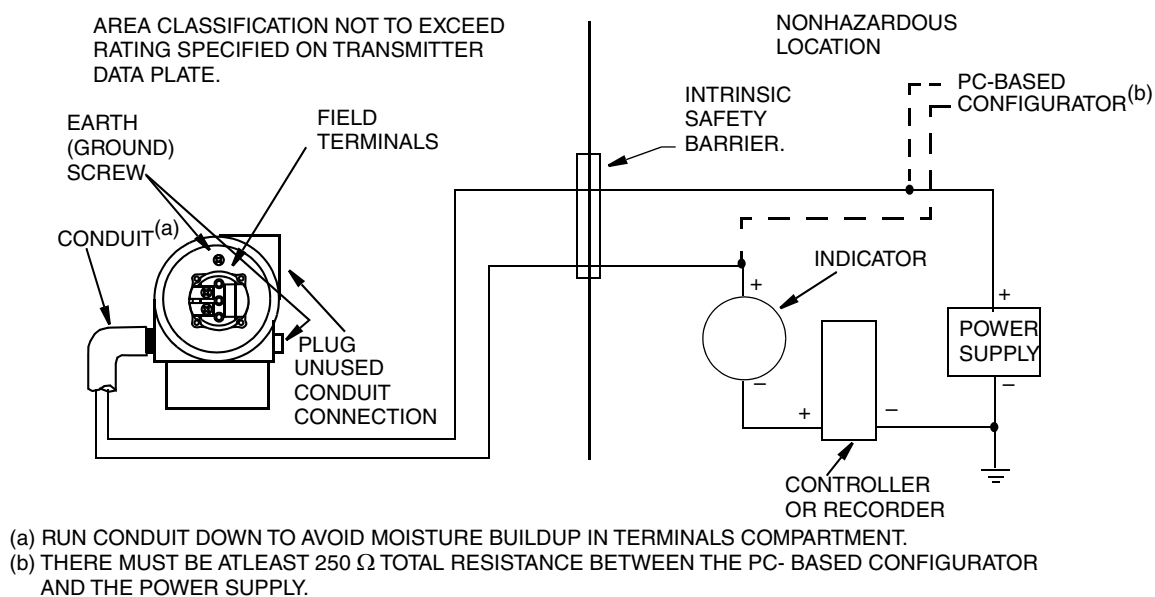

Figure 17. Loop Wiring 4 to 20 mA Output Transmitters
7. Connect receivers (such as controllers, recorders, indicators) in series with power supply and transmitter as shown in Figure 17.
10. The PC-Based Configurator can be connected in the loop between the transmitter and the power supply as shown in Figures 17 and 18. Note that a minimum of 250 Ω must separate the power supply from the PC-Based Configurator.